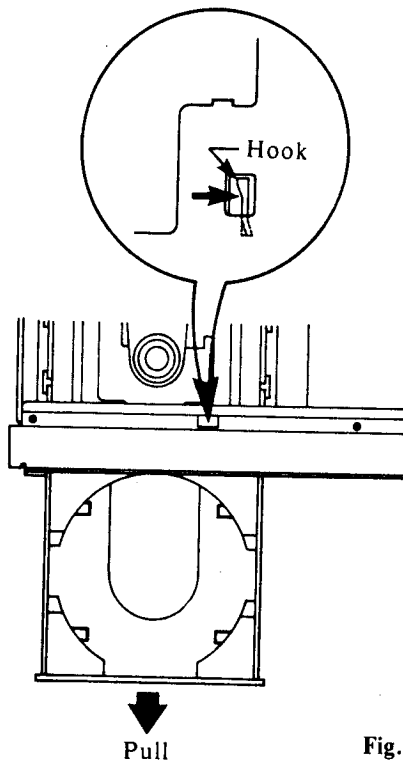

Fig. 3-10
4. Now remove the table load from the cabinet while pressing the hook in the direction of the arrow as shown Fig. 3-10.